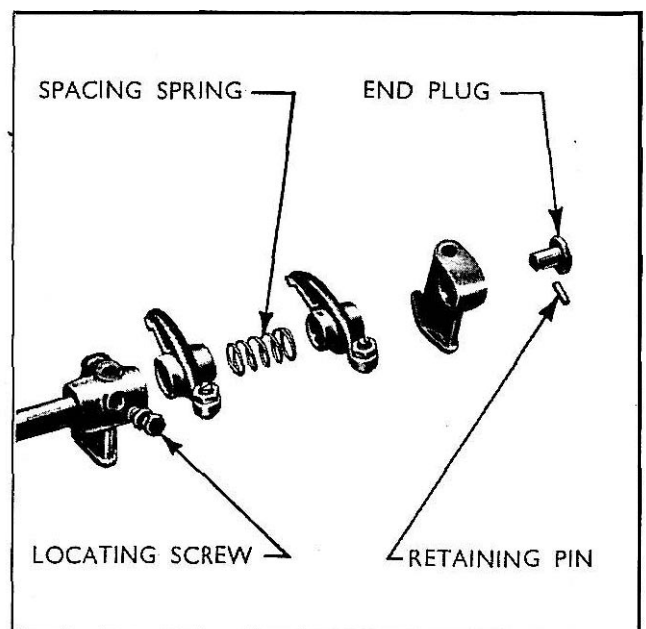

Fig. 46
- 2 Stand the assembly on one end, push the rocker levers, springs, and support brackets downwards until the pin retaining the end plug is revealed. Remove the pin and withdraw the end plug. (See Fig. 46.)